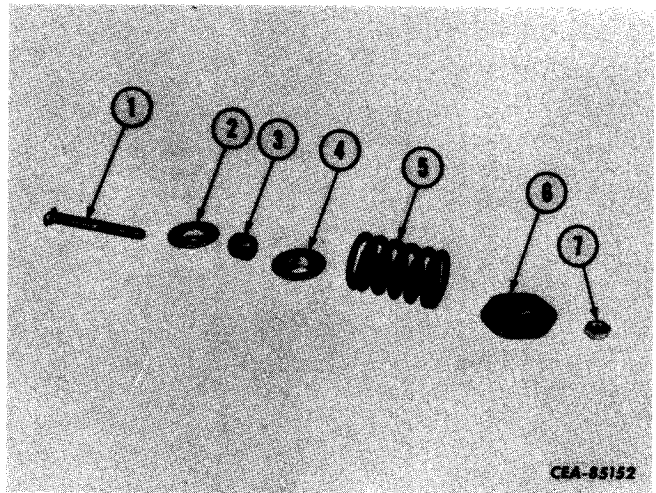

Figure 13-6
Remove lock nut (7, Fig. 13-6) from adjusting screw (1). Unscrew adjusting screw (1) from upper spring seat (6). Remove spring (5), lower spring seats (2 and 4), and guide (3).
Install lower spring seat (2, Fig. 13-6), guide (3), and spring seat (4) on adjusting screw (1). Place spring (5), upper spring seat (6), and lock nut (7) on adjusting screw.